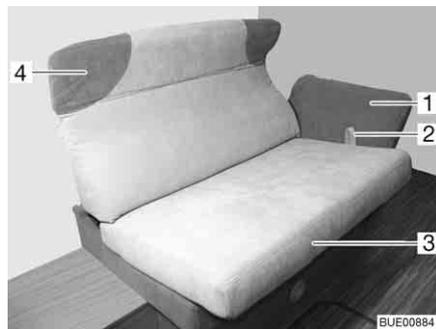

Fig. 81 Adjusting the divan
- Pull up the loop (Fig. 81,2) and carefully pull the seat (Fig. 81,3) along the rails as far as it will go towards the middle.
- Hold the neck cushion (Fig. 81,4) in both hands and carefully move it up or down to the right position.
- Hold the armrest (Fig. 81,1) in both hands and carefully move it up or down to the right position.